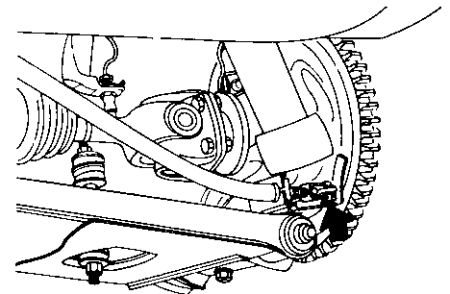

Fig. BR-22 Removing hand brake wire
- (1) Remove clevis pin (indicated by arrow mark) from wheel cylinder lever, and disconnect hand brake cable. See Figure BR-22.
- (2) Remove brake drum adjust hole plug, and remove adjust lever from adjust wheel with a screwdriver.